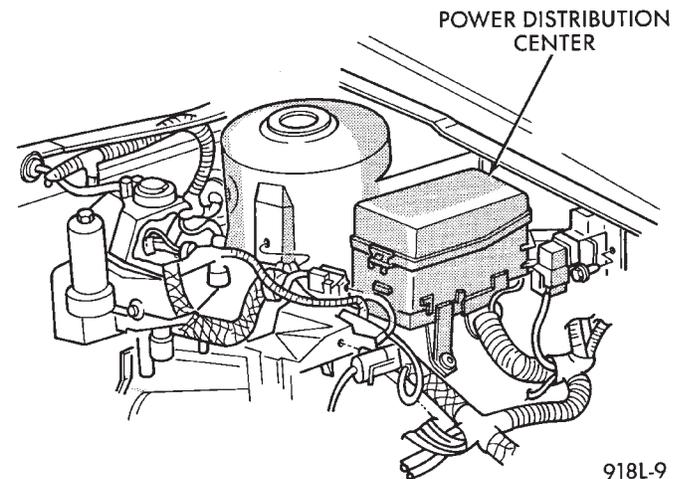

Fig. 11 Power Distribution Center
- (1) Turn headlight switch ON.
- (2) Open hood and locate Power Distribution Center forward of the left suspension tower (Fig. 11).